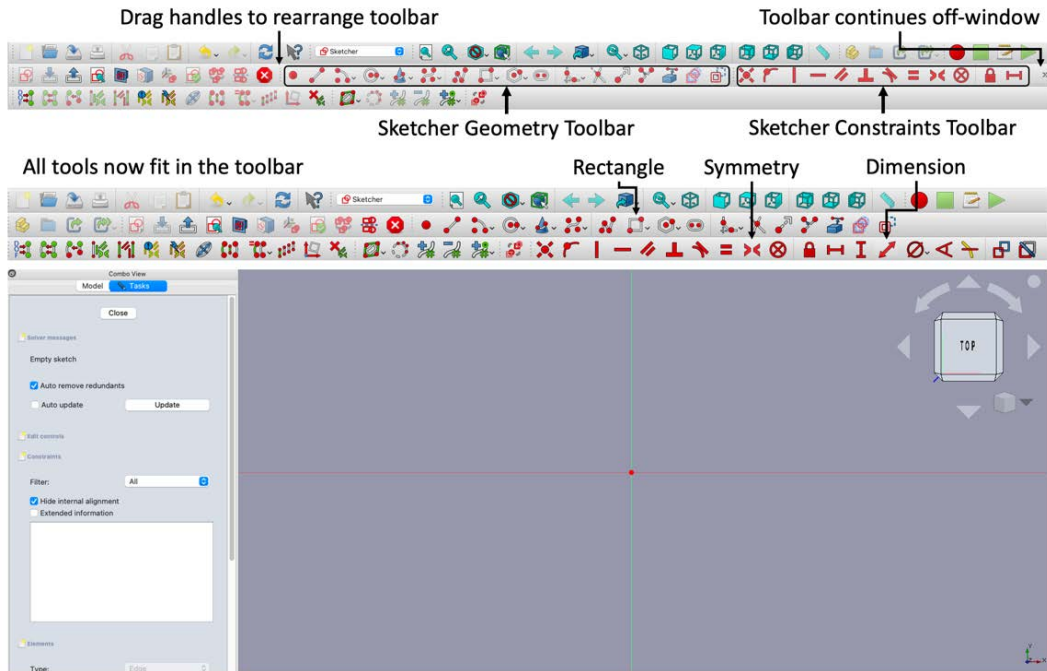

Figure 3.9 – The Sketcher workbench
Figure 3.9 shows **Sketcher** screen elements. At the top are toolbars. We'll mostly use two toolbars—**Sketcher Geometry** to create shapes and lines, and **Sketcher Constraints** to place geometry. The default arrangement of toolbars puts items offscreen, shown in the top right. However, we can drag toolbars to rearrange them to see all the toolbars, as per the second toolbar shot.
1. Click on the **Rectangle** tool in the geometry toolbar, highlighted in Figure 3.9.